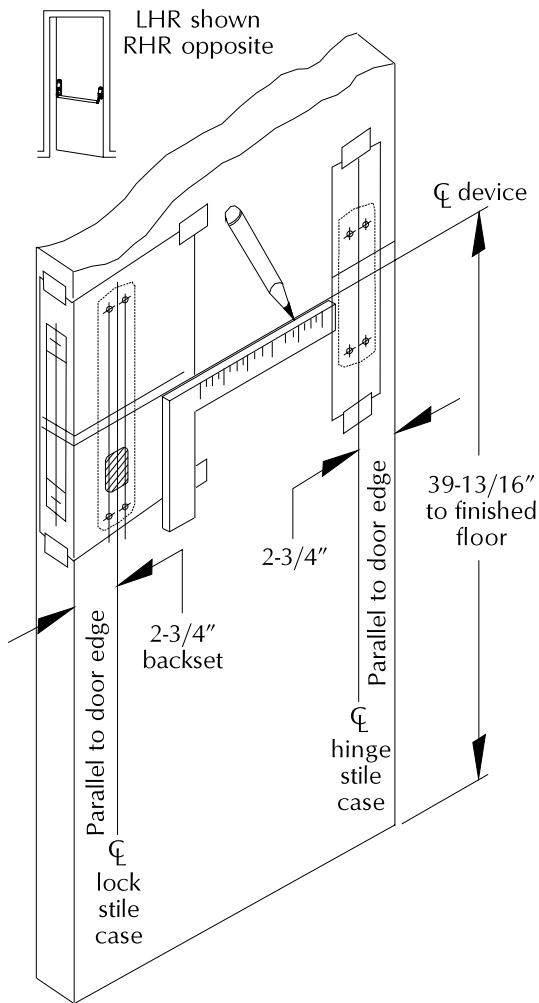

Figure 1. Prepare Door
3. Tape full size RHR or LHR lock stile case and hinge stile case templates to inside face of door (Figure 1). Be sure center line of device is 39-13/16" from finished floor. Prepare inside face of door for device per templates.